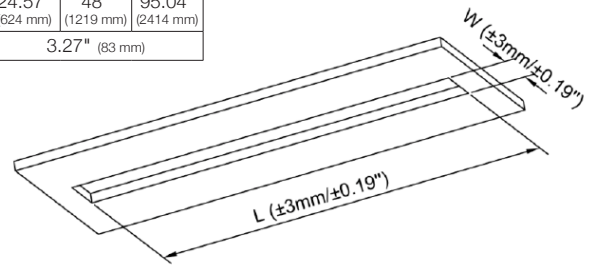

Fig. 9.2
2. Cut a rectangular hole on the mounting surface. (Fig. 9.2)